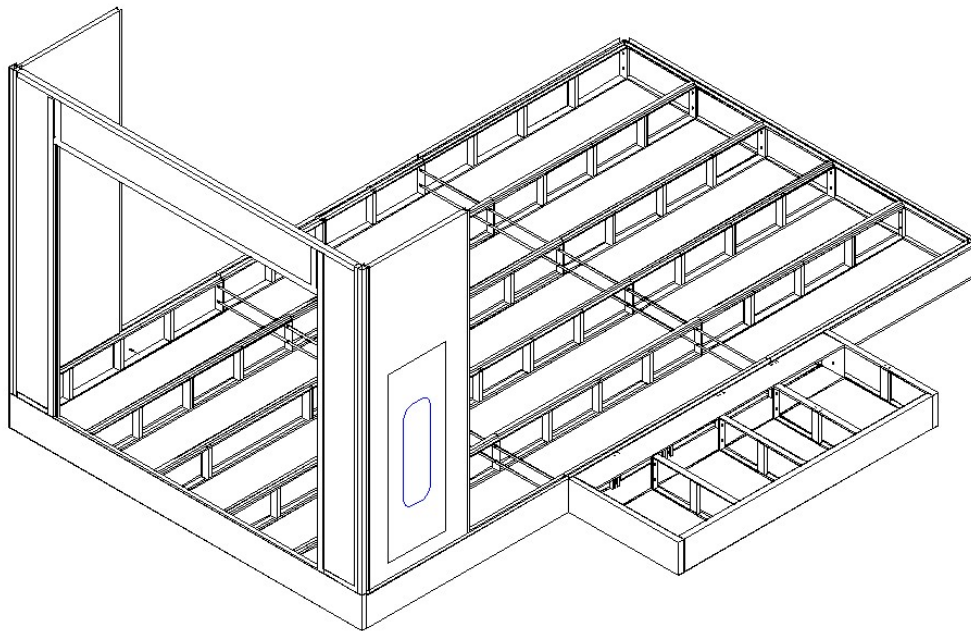

Fig. 3.7
3) Take the Front door frame on to the front panel of the basement by two workers, then one worker holds the door frame and another worker takes the safe door and one wall panel on another side, connect them to the door frame with nails. At last take four bolts M8\*20 to connect the bottom of the door frame and the front panel of the basement, shown in Fig.3.7. So the door frame can stand steadily.